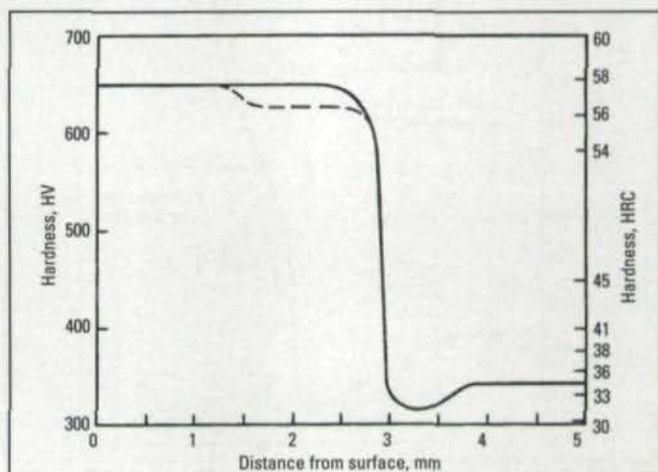

Fig. 7—Typical hardening pattern.
1) Hardness. Figure 7 shows a typical hardness distribution. Induction hardened surfaces, for which the carbon content is nominally 0.40% C, usually have hardness values of more than 55 HRC, and up to 60 HRC, as hardened. Tempering at 200–250°C reduces hardness slightly to about 54–57 HRC. Two features should be noted: an added plateau of hardness (broken line), and a trough in the curve just below the case-core junction. The first feature, which is occasionally observed, may relate to the extent of carbon solution and the degree of car-